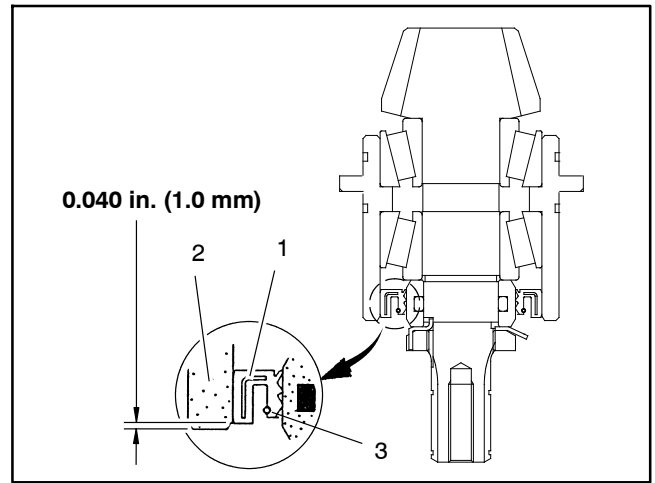

Figure 36
3. Coat a new oil seal with grease and install as shown in Figure 36. The seal should be installed with the garter spring towards the hydraulic motor location.